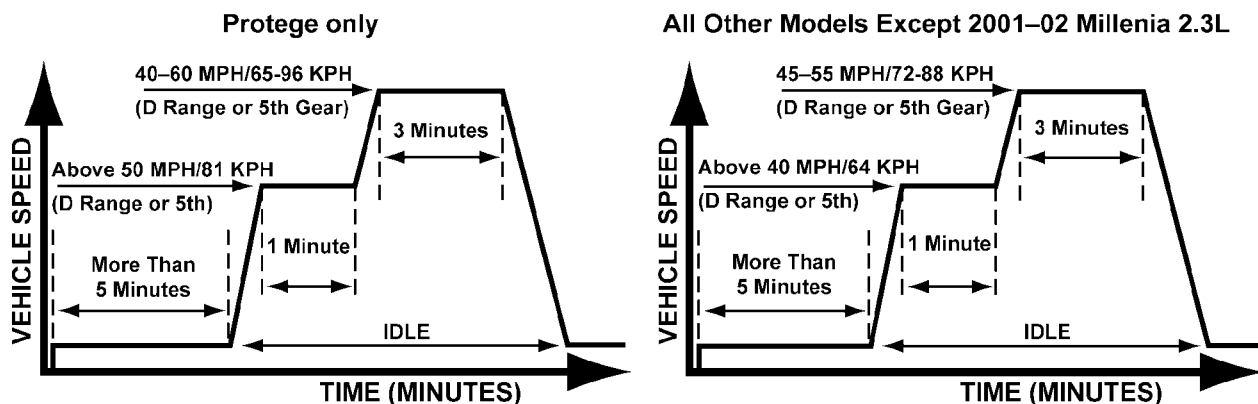
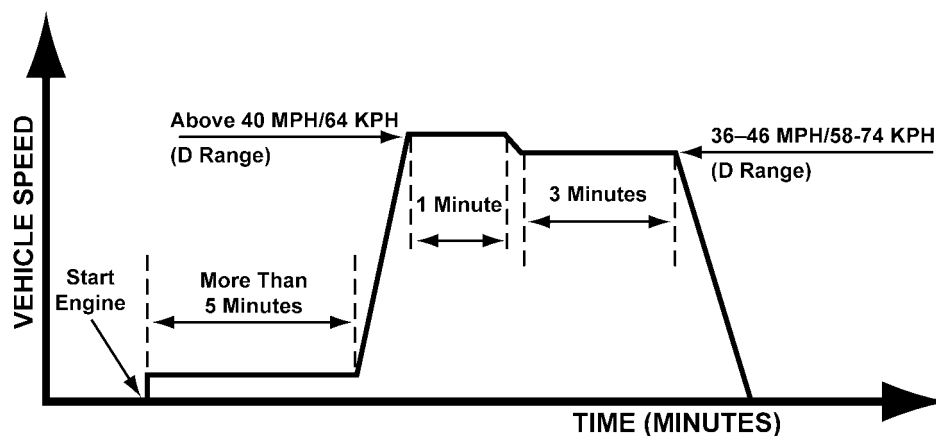

Figure MA000-11
Figure MA000-12
3. Drive vehicle as indicated by the graphs (Figure MA000-11 and Figure MA000-12).